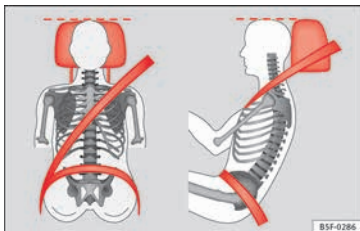

Fig. 85 Correctly adjusted head restraint as viewed from the front and the side.
- Adjust the head restraint so that its upper edge is, as far as possible, at the same level as the top of your head, or at the very least, at eye level » **Fig. 85.**